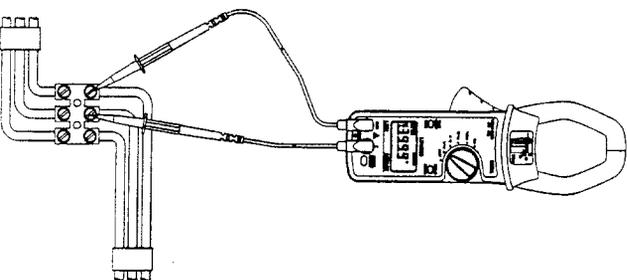

Fig. 3
- Insert the test leads into the sockets on the front of the instrument, the red lead to the V Ω terminal and the black-lead to the COM terminal, as shown in Fig. 3.
- Press the trigger to open the jaws and clamp them around the current carrying conductor as shown in Fig. 3
- To measure the frequency of the voltage supply apply the test leads to the circuit as shown in Fig. 3 and read the display